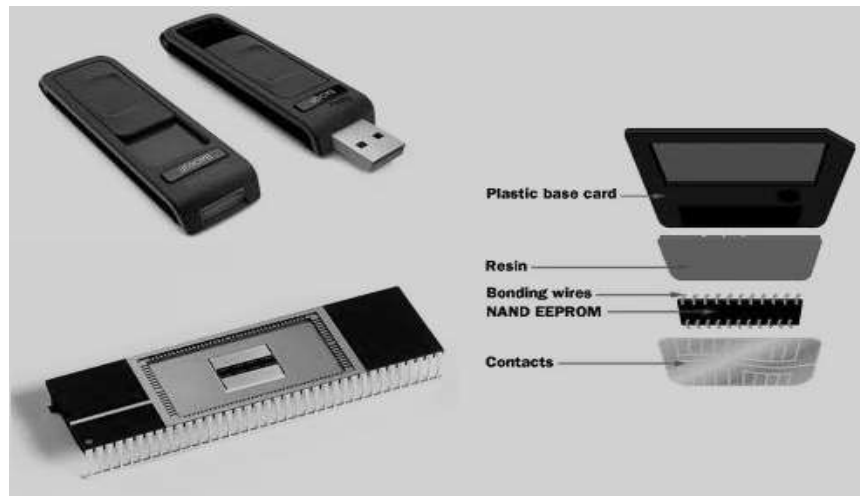

Figure 8.6: Flash Memory disk drive
Flash Memory drive is an external storage device which can be used to read and write the flash memory. Flash drive is also called as USB flash drive or thumb drive or pen drive. You can see a typical figure as shown in figure 8.6.
- *Male type-A USB connector:* this connector is used to connect the flash drive to any computer available in the computer world. Male type-A USB connector provides a physical interface to the host computer. This is similar to the contact shown in the figure 8.6
- *NAND flash memory chip:* is a nonvolatile data storage medium that requires no power to retain the stored data. These are mostly used in digital cameras, memory cards, USB flash drives, etc. it is shown in the figure 8.6 labeled as NAND EEPROM and bonding wires.